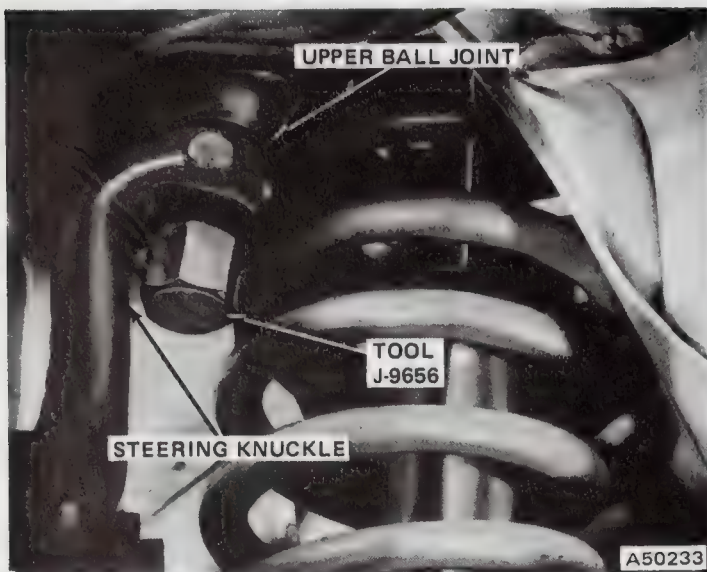

Fig. 2M-30 Upper Ball Joint Removal
- (1) Refer to Front Wheel Alignment Specifications at end of this section before proceeding.
- (2) Adjust alignment angles in following order only: camber, caster, toe-in.
- (3) Adjust **camber** by turning both front—or both front and rear lower control arm pivot bolt eccentrics to obtain desired camber (fig. 2M-26). Tighten pivot bolt locknuts to 110 foot-pounds (149.1 Nm) torque after adjustment.